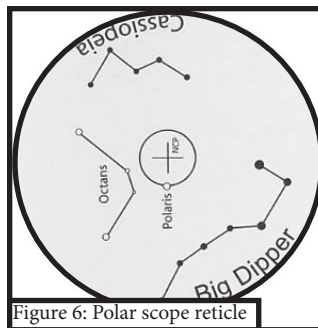

Figure 6: Polar scope reticle
3. Look through the polar viewfinder and notice the reticle pattern (see Figure 6). If the reticle is not in focus, rotate the focus ring (Figure 5, #11) until the reticle pattern is sharp.
2. Look through the polar scope and note the reticle cross-hair. Unlock the RA axis and rotate the RA until "Polaris" is at the bottom of the polar scope field of view as shown in Figure 6. Re-lock the RA axis.